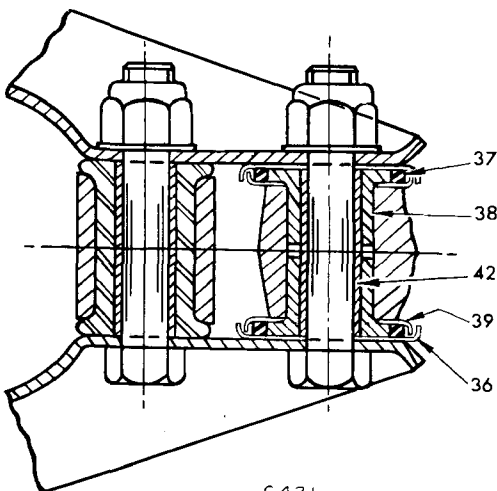

Fig. 9. Trunnion bushes and seals
1. Refit the bush assembly to the trunnion (Fig. 9) liberally smearing the bushes with grease.